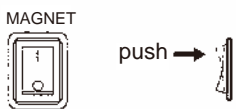

Fig. 15
(1) Start
- **Magnet ON** (Fig.15)